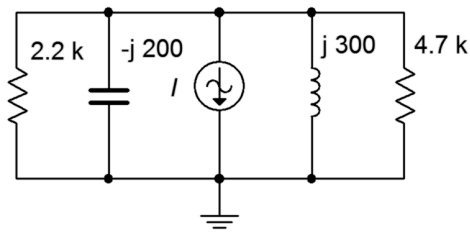

Figure 3.15
23. Determine the component currents for the circuit shown in Figure 3.15. I is 20 mA at 0 degrees.
24. Determine the source voltage for the circuit shown in Figure 3.15. I is 20 mA at 0 degrees.